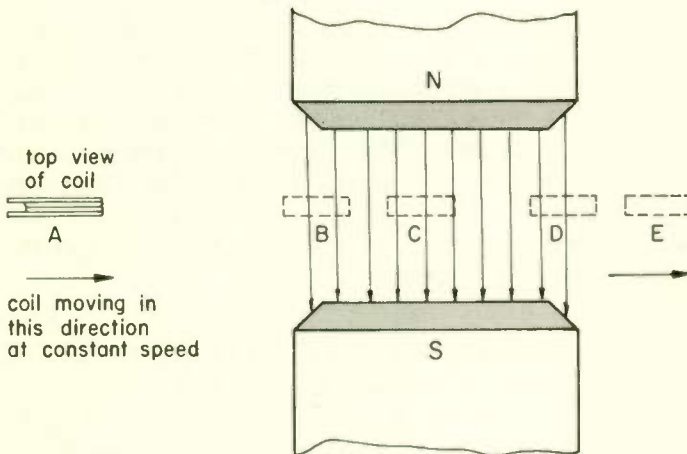

Fig. 20
5. The amplitude of the induced voltage in Fig. 20 when the coil is in position C is (*zero*) (*more than the induced voltage at position B or D*) (*the same as the induced voltage at position B or D*).